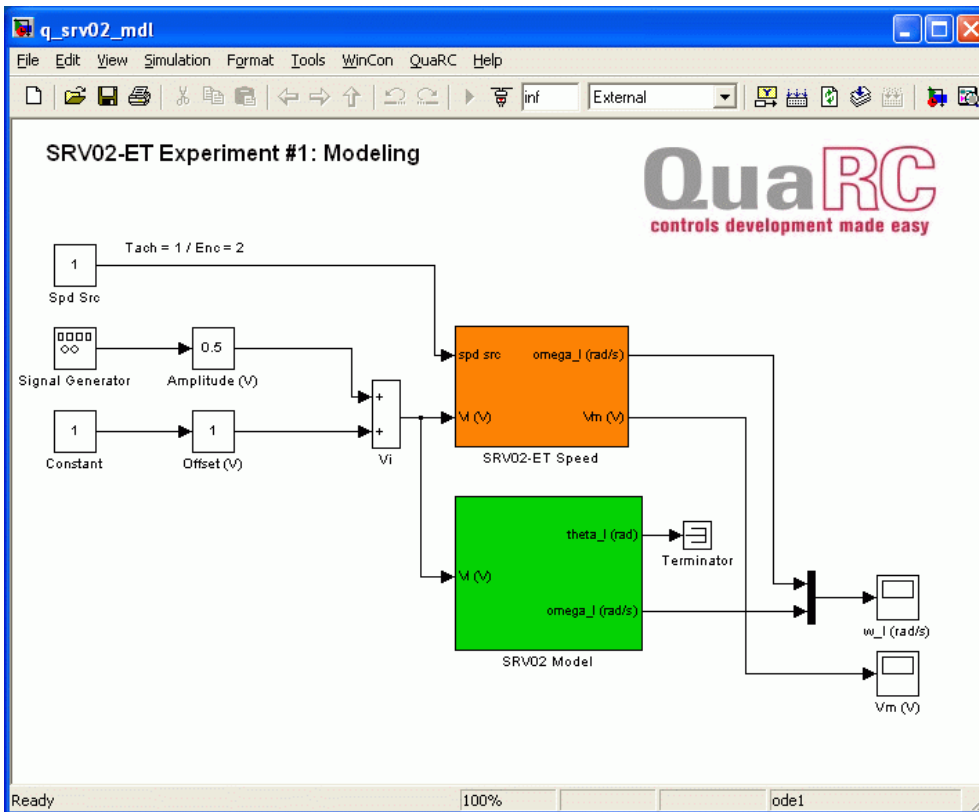

Figure 5: *q_srv02.mdl* Simulink diagram used to model SRV02.
The *q_srv02.mdl* Simulink diagram shown in Figure 5 is used to perform the modeling exercises in this laboratory. The *SRV02-ET* subsystem contains QUARC blocks that interface with the DC motor and sensors of the SRV02 system, as discussed in Reference [6]. The *SRV02 Model* uses a Transfer Fcn block from the Simulink library to simulate the SRV02 system. Thus both the measured and simulated load shaft speed can be monitored simultaneously given the set open-loop input voltage.
4. Double-click on the *q_srv02_mdl.mdl* file to open the Simulink diagram shown in Figure 5.
5. **Configure DAQ:** Double-click on the HIL Initialize block in the Simulink diagram and ensure it is configured for the DAQ device that is installed in your system. For instance, the block shown in Figure 5 is setup for the Quanser Q8 hardware-in-the-loop board. See Reference [6] for more information on configuring the HIL Initialize block.
6. **Configure Sensor:** The speed of the load shaft can be measured using various sensors. Set the *Spd Src* Source block in *q_srv02_mdl*, as shown in Figure 5, as follows: